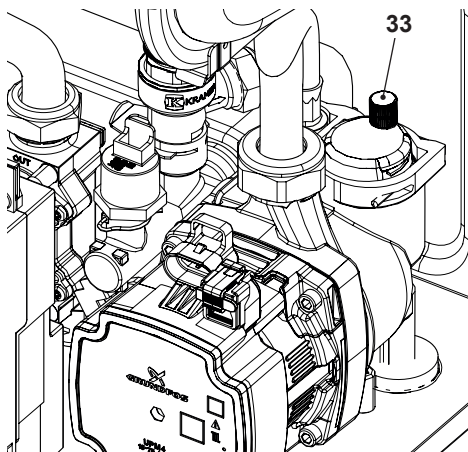

Fig. 7.2
- Loosen the cap on the automatic air purger valve 33 in Fig. 7.2 and leave open permanently.